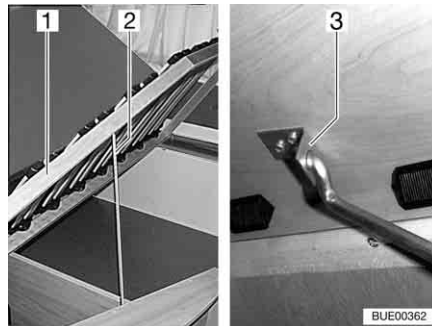

Fig. 64 Fixed bed
- Lift the slatted frame (Fig. 64,1), release the rail (Fig. 64,2) from its bracing and insert into the cavity in the holder (Fig. 64,3).
- Lift the slatted frame (Fig. 64,1), release the rail (Fig. 64,2) from the holder (Fig. 64,3) and clamp into the bracing.